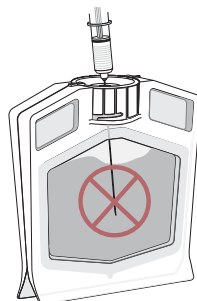

Figure 7 Needle positioned too far inside cassette.
2. Penetrate the septum at the center of the cassette's cap. Overextending the needle into the sample chamber may puncture the membrane (Figure 7). Slowly extend the needle minimally into the chamber so that the open end of the needle is barely visible.